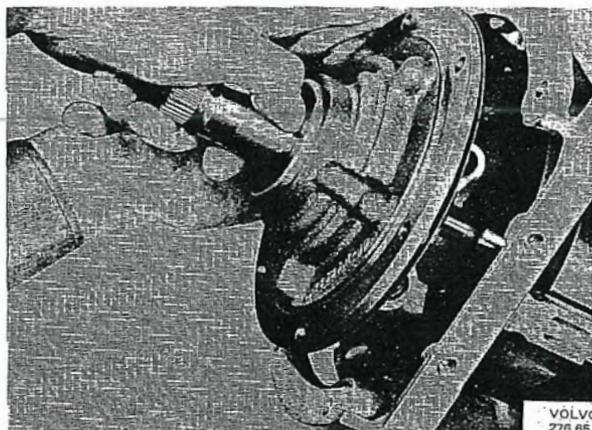

Fig. 4-79. Removing front pump
22. Unscrew the six bolts which retain the pump to the body. Withdraw the pump and remove the gasket. Push the shaft inwards when withdrawing the pump, see Fig. 4-79.